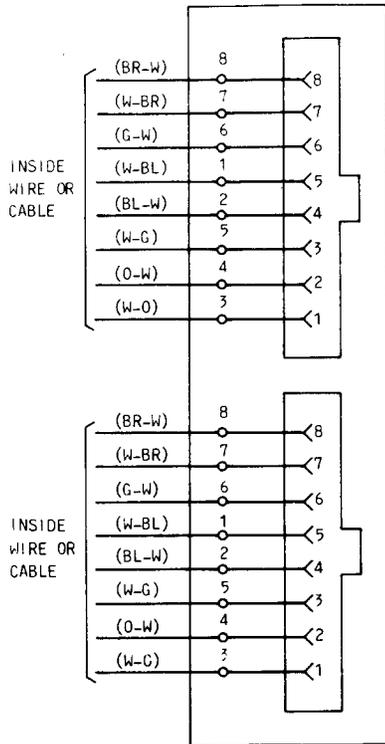

Fig. 10—104A and 106AFD Connecting Block, Schematic
**2.10** The 104A connecting block is intended to be surface-mounted on a wall, baseboard, or other flat surface, using No. 6 screws, adhesive strips (D-181126 Kit of Parts, ordered separately), or magnets (D-180880 Kit of Parts, ordered separately). It will accommodate surface-dressed or inside wall wiring and is wired as shown in Fig. 10 for two separate telephone sets. Interconnection of connectors between the two quick-connect fields (Fig. 11) is provided by allowing sufficient extra continuous inside wire length (approximately 2 inches) for bridging. The jack positions are numbered 1 and 2 on the connecting block cover, and a writing surface is provided inside the cover so that specific wiring can be recorded for future reference. Mounting orientation is as described for the 103A (paragraph 2.08).
cal duplex outlet faceplates. Wiring for the 106AFD is shown in Fig. 10 and bridging in Fig. 11.♦